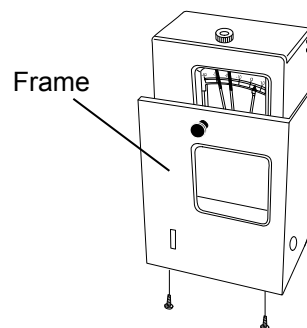

Fig. 2
4. Fix the temperature recorder to the frame in the recorder fixing (MPR-S30) referring to the instruction manual enclosed with the recorder fixing. [Fig. 2]